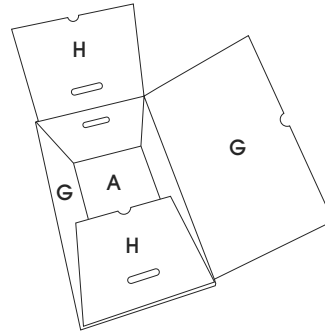

Figure 14
10. Fold down all four flaps (H, G) one by one to finish the box. (See Figure 14)